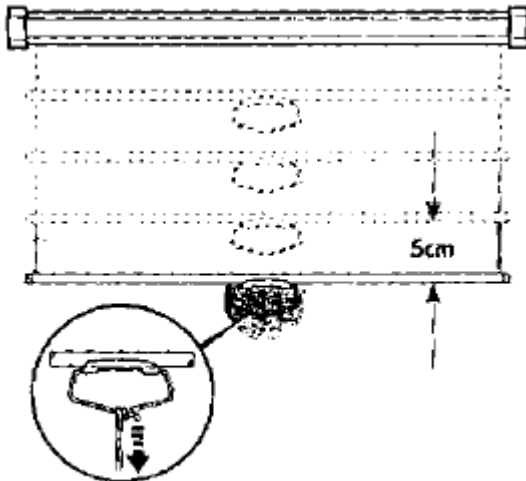

Fig. 6
2. If you want the screen to retract back, simply pull down the screen down more than 2 inches and retract the screen back by quickly and smoothly releasing it up gently. **Fig. 6** (Always release in a 90-degree angle and do not let go until the screen is entirely inside the case)